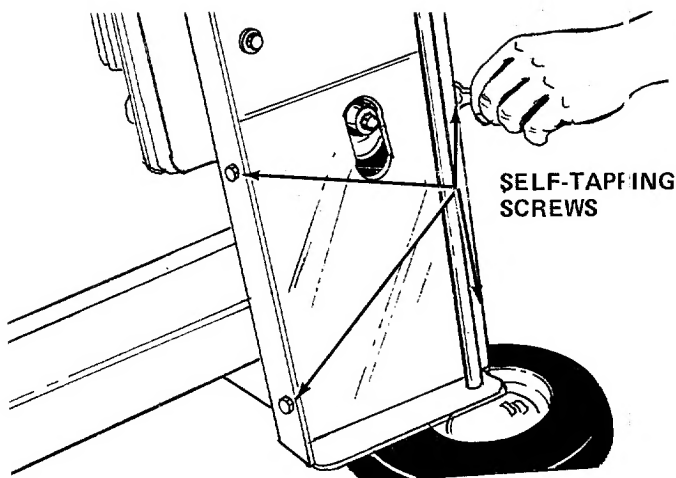

FIGURE 13
4. Remove four self-tapping screws from the bottom belt cover and frame. Refer to figure 13.
4. Remove four self-tapping screws from the bottom belt cover and frame. See figure 13.